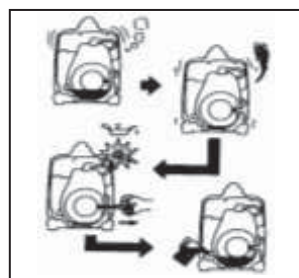

Fig. 4-1
1) OIL WARNING SYSTEM (See Fig. 4-1)